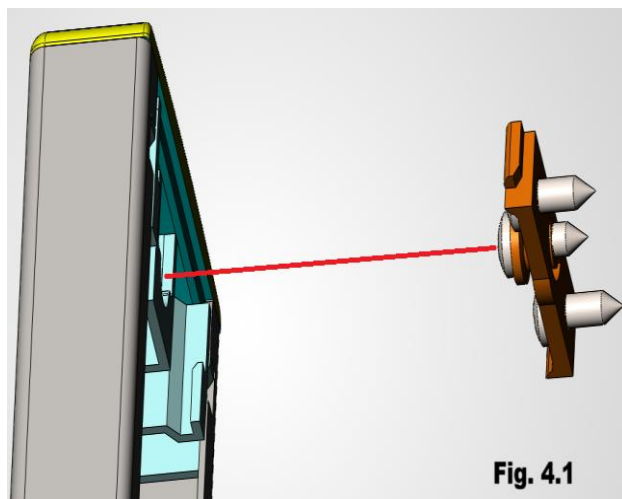

Fig. 4.1 — Reattachment to the upper bracket
2. Reattach the fixture to the upper bracket using the corresponding slot on the upper end (Fig. 4.1).